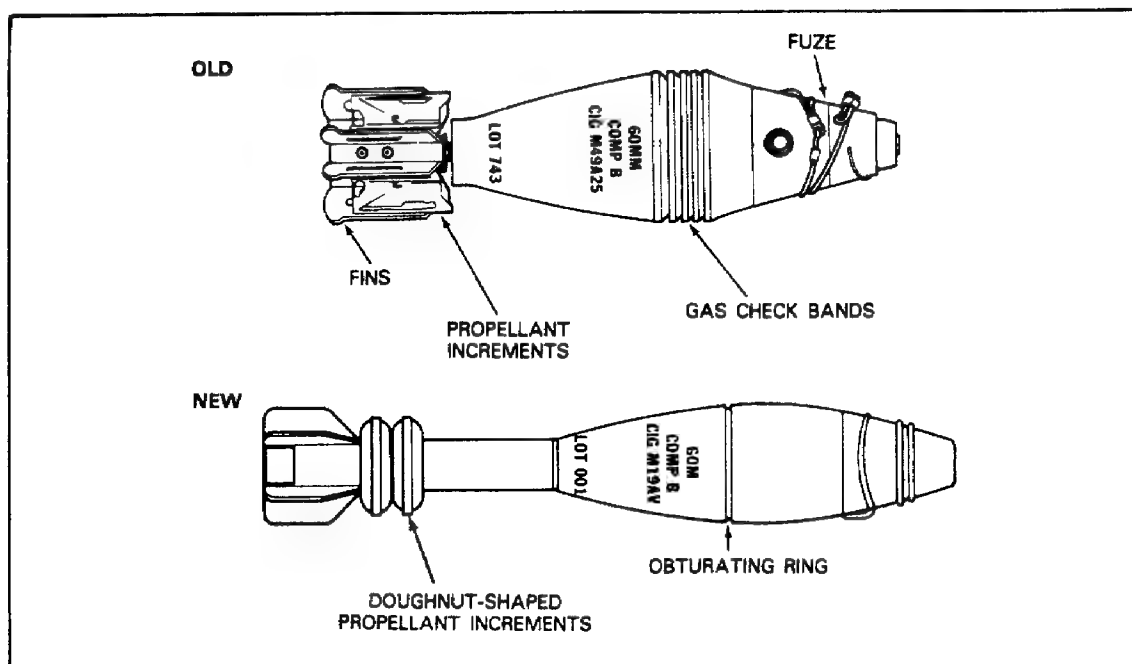
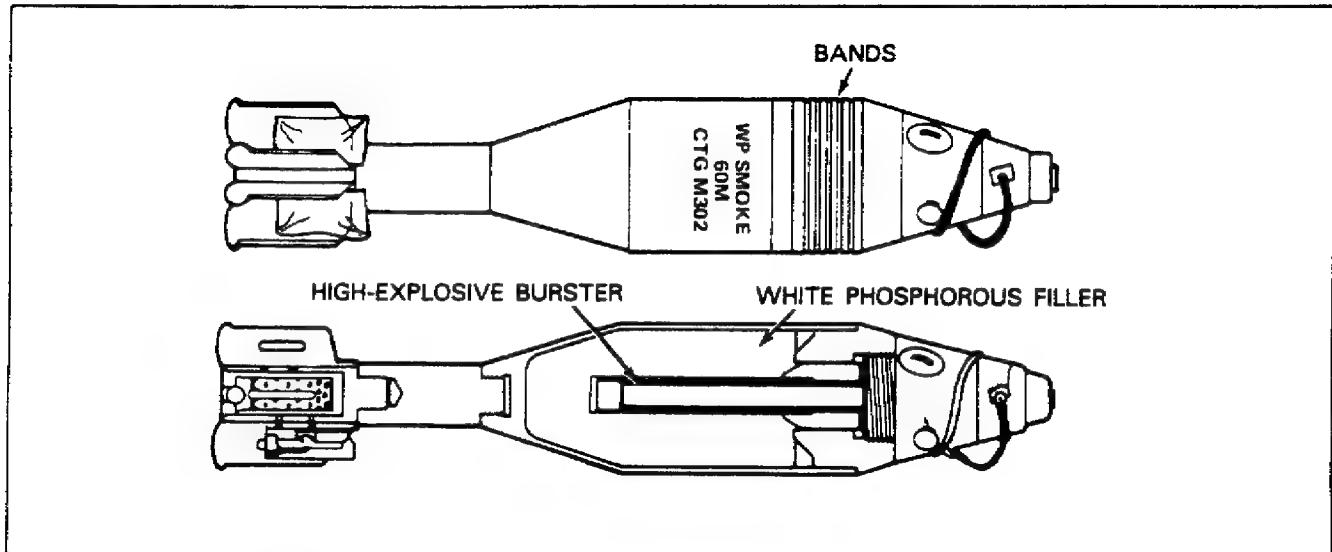

Figure 21. Old and New Types of 60mm HE Mortar Ammunition.
Figure 22. 60mm Smoke-White Phosphorous Mortar Cartridge.
configurations, the old type and the improved new type. Take a moment to familiarize yourself with these two cartridges and compare their features using Figure 21 and the chart below.
**60mm Smoke-White Phosphorous Mortar Ammunition.** The 60mm smoke-white phosphorous mortar cartridge, used primarily for smoke-screening and smoke-spotting, is shown in Figure 22. Note that the largest portion of its body is cylindrical. The fuze, fin assembly, gas check band, and propellant increments are the same as in the old type HE round shown in Figure 21. The round has a high-explosive burster charge extending through the white phosphorous filler. Upon impact, the point-detonating fuze functions, detonating the high-explosive burster. The body is then ruptured and the white phosphorous filler is scattered. The white phosphorous is ignited upon contact with the air, and it burns and produces smoke. This round may have one of two color codes, gray with yellow markings and a yellow band (old color code) or light-green with light-red markings and a yellow band (new color code).
The new type 81mm HE mortar cartridge has been improved further. On various models, obturating rings, horseshoe shaped or doughnut-shaped propellant increments covered by a plastic cover, or fin assemblies with a shroud have been added. The colors on the 81mm HE mortar cartridge are the same as on other HE ammunition, olive drab with yellow markings. (See Figure 21 and the chart on page 21 for comparable improvements on 60mm HE mortar ammunition.)